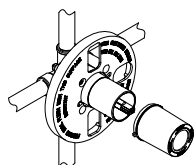

Fig .3
- Remove the Tub&Shower cap before installing escutcheon (see Fig. 3).